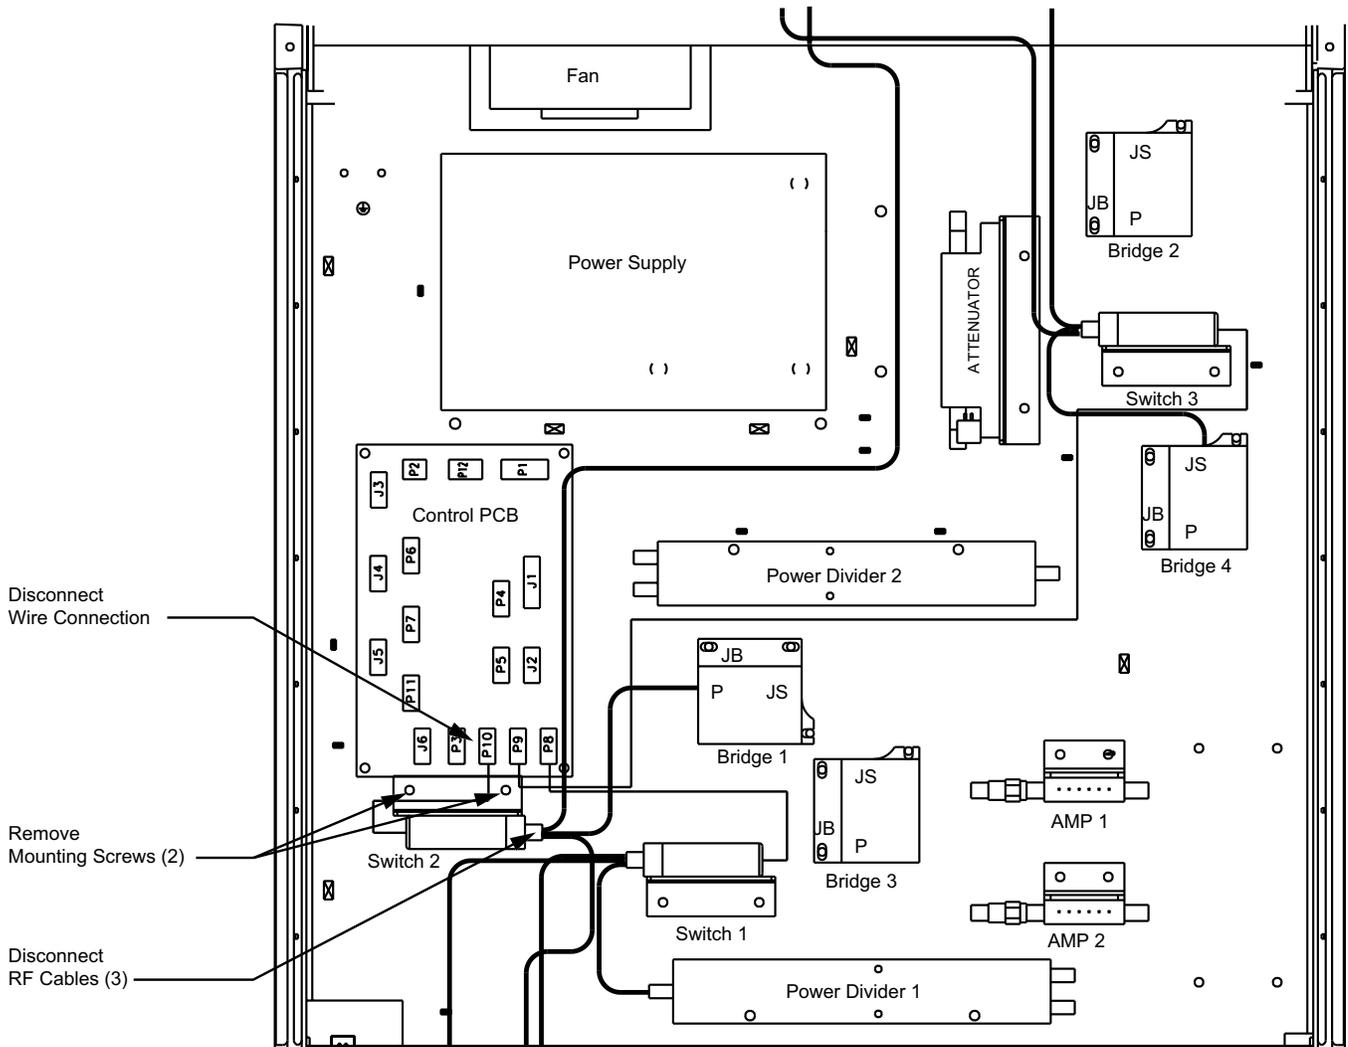

Figure 5-8. RF Switch Removal
- Step 2.** Use a 5/16 inch wrench to disconnect the three RF cables from the RF Switch to be removed (Figure 5-8).